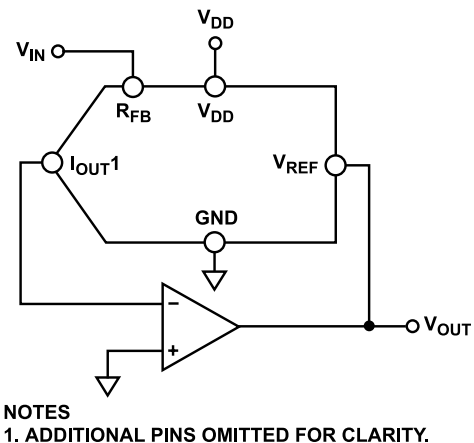

Figure 42. Current-Steering DAC Used as a Divider or Programmable Gain Element
Current-steering DACs are very flexible and lend themselves to many different applications. If this type of DAC is connected as the feedback element of an op amp and R_{FB} is used as the input resistor, as shown in Figure 42, then the output voltage is inversely proportional to the digital input fraction, D .
As D is reduced, the output voltage increases. For small values of the digital fraction (D), it is important to ensure that the amplifier does not saturate, and the required accuracy is met. For example, an 8-bit DAC driven with the binary code 0x10 (0001 0000), that is, 16 decimal, in the circuit of Figure 42, must cause the output voltage to be $16 \times V_{IN}$. However, if the DAC has a linearity specification of ± 0.5 LSB, then D can, in fact, have a weight in the range of $15.5/256$ to $16.5/256$, so the possible output voltage is in the range $15.5 V_{IN}$ to $16.5 V_{IN}$. This is an error of 3%, even though the DAC itself has a maximum error of 0.2%.